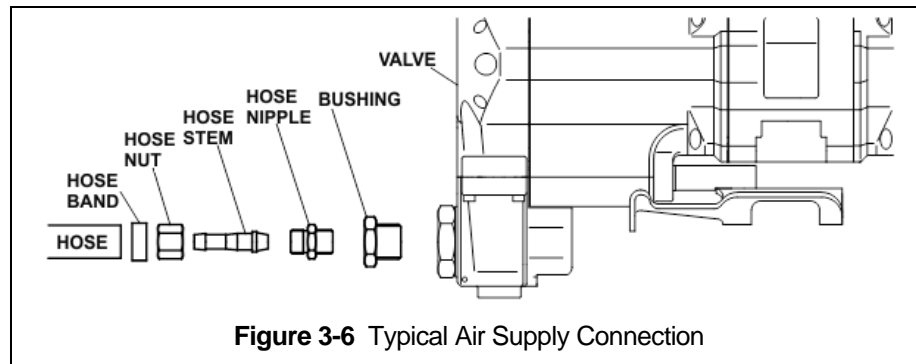

Figure 3-6 Typical Air Supply Connection
3.9.5 Make connections to air supply; reference Figure 3-6. Use a reducing adapter at the hoist valve section for hose sizes larger than 3/4 inch NPT.